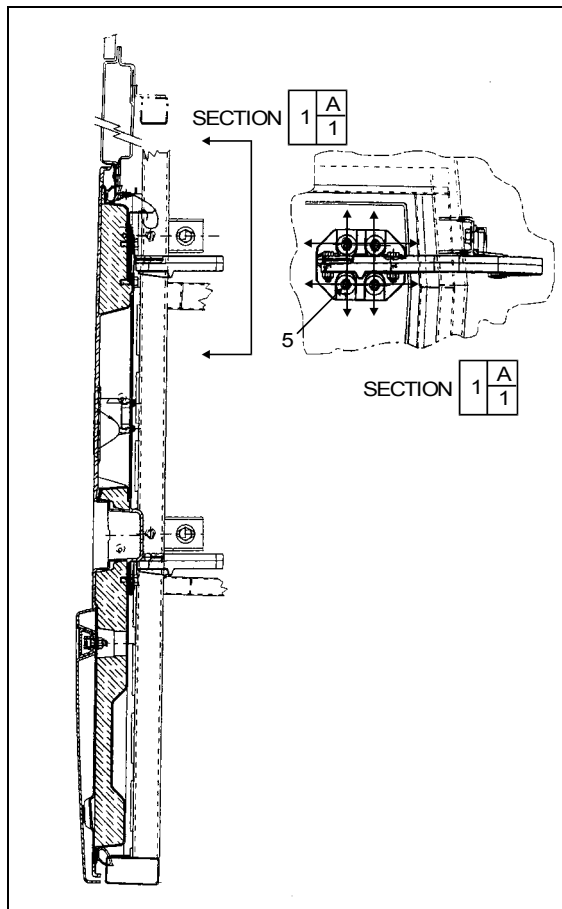

FIGURE 59: FRONT SERVICE DOOR 18195
7. Loosen screws (5, Fig. 59) to allow the door to be shifted "UP or DOWN".